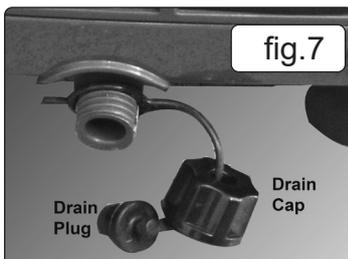

fig.7
If the machine shuts down because of excess water in the drain tank (as in 5.3.2.), disconnect from mains power. Move the machine slowly to avoid spilling condensate. Drain the tank (fig.7) by unscrewing the drain cap, removing the drain plug and draining the collected water into a suitable container or drain.
6.3.1. If the unit is not to be used for a long period of time, drain off any water in the tank. Place a large enough container under the rear of the unit, remove the rubber drainage stopper (fig.7) to allow the tank to drain. When the tank is empty, replace the stopper firmly. Clean the unit and air filter as above, and store in a safe, dry area, out of the reach of children.